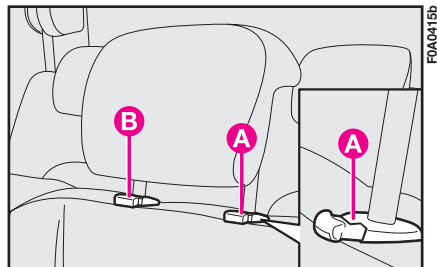

fig. 62b
To remove the rear head restraints, remove the rear window shelf (see “Boot” in this chapter), press buttons **A-fig. 62b** by the side of the stands and pull the head restraint upwards.
To use head restraints, raise them from non-use position (1) to use position (2). To set them back to “non-use position” (1), press the outer button **A-fig. 62b** and push down the head restraint.